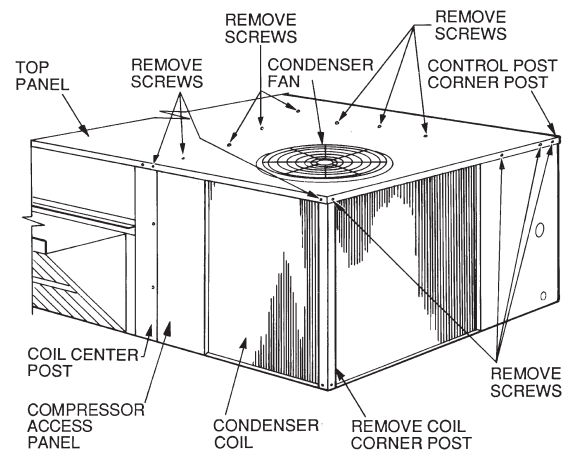
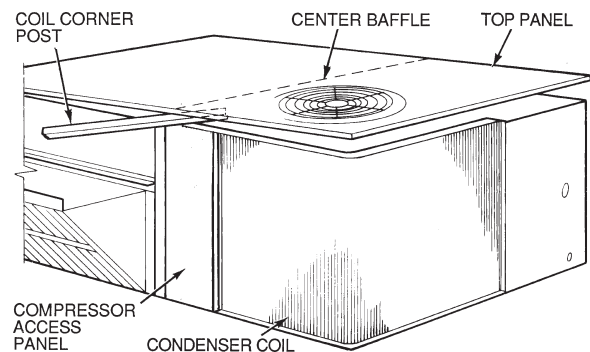

Fig. 12 — Cleaning Condenser Coil
Fig. 13 — Propping Up Top Panel
3. Remove the condenser coil corner post. See Fig. 12. To hold the top panel open, place the coil corner post between the top panel and center post. See Fig. 13.